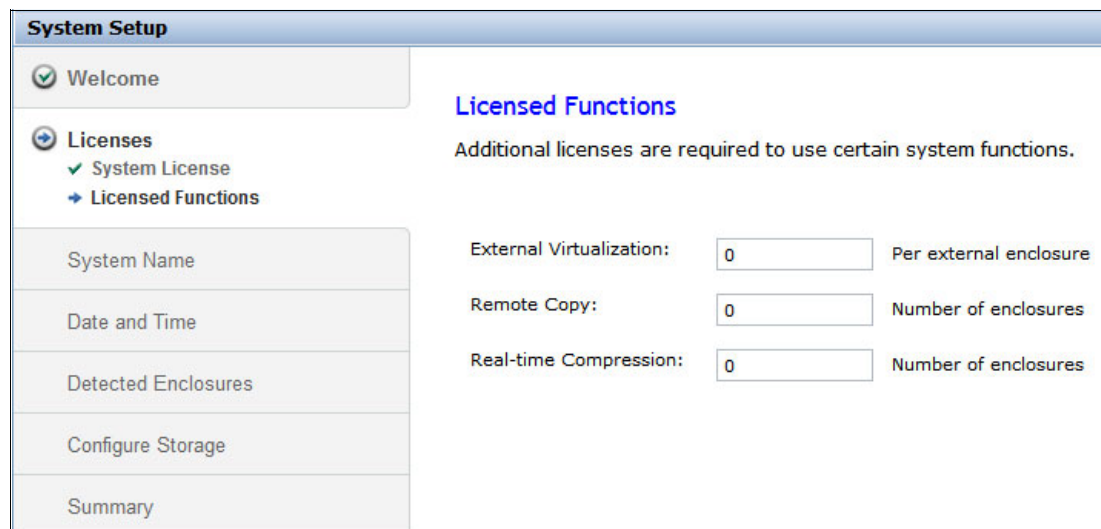

Figure 6-128 Setup wizard: Licensed Functions
2. Optional: Specify licensed functions, as shown in Figure 6-128. The System Licenses include the External Virtualization limit, Remote Copy limit, and IBM Real-time Compression™ limit. Click **Apply** and select **Next**.
3. Specify a system name, as shown in Figure 6-128 on page 229. Click **Apply** and select **Next**.